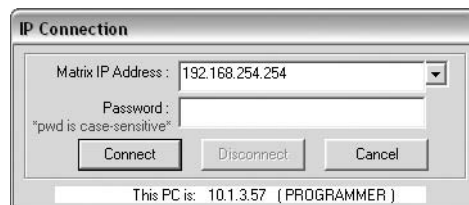

Figure 5-23 — Address and password entry
3. If you selected **IP [LAN]** in step 2, the IP Connection window appears (figure 5-23).